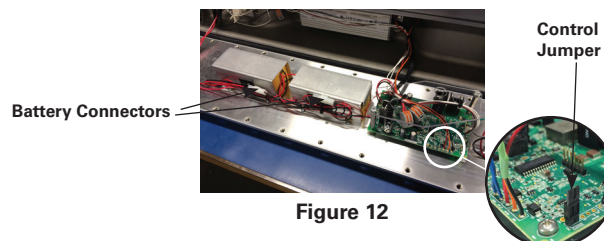

Figure 12
12. Disconnect the connectors from the charger/driver board from battery #1 and battery #2, respectively (see Figure 12).
13. Cut the wire ties on each wire tie mount on the two (2) battery hold-down clamps.
14. Remove the four (4) screws that secure each battery pack hold-down clamp and remove the old battery packs. Replace with new battery packs supplied by Eaton's Crouse-Hinds Division.
15. Secure each hold-down clamp with four (4) screws and tighten to 5 in.-lbs. (0.6 N-m).
17. Bundle the battery leads neatly (see Figure 12) and secure them to the wire tie mounts using the wire ties supplied in the EM battery kit.
19. Re-install the twenty-four (24) socket head cap screws and lock washers from the driver housing using a 5mm hex wrench or bit.